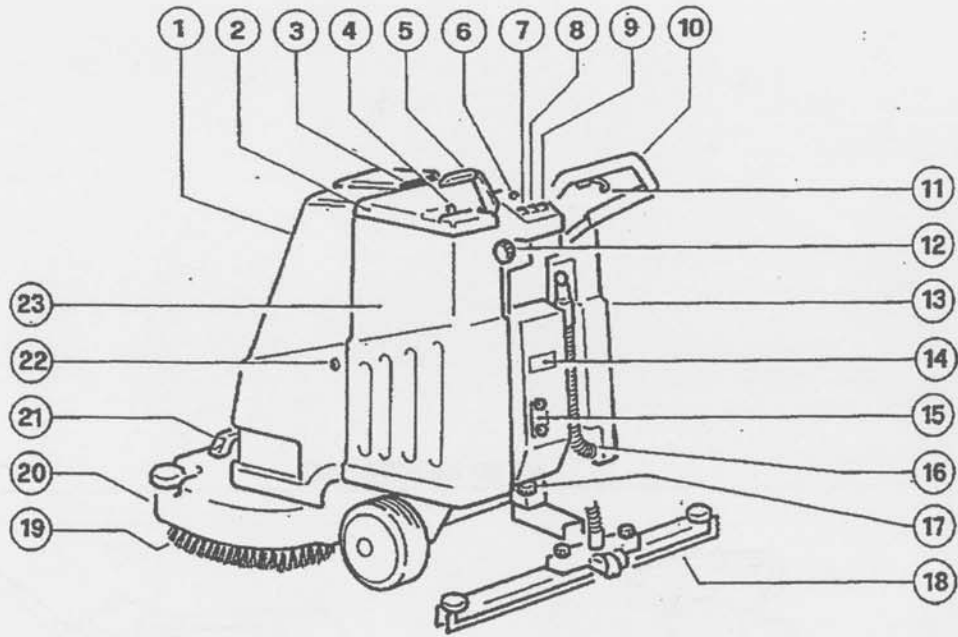

Fig. 2
This operating and service manual applies to models of single-brush floor cleaners. The machine identification plate is affixed to the electrical box in position N°. 14, fig. 2.
The main parts of the machine are as follows (reference fig. 2):
- remove the squeegee (fig. 2, N° 18) and brush (fig. 2, N° 19) from their packaging;
- operate the squeegee lifting lever (fig. 2, N° 5) and remove the tank cover (fig. 2, N° 2), eliminating the sheet protecting the control panel;
- take out the envelope inside the dirty water tank (fig. 2, N° 13) and the one attached to the handgrip (fig. 2, N° 10) and check the contents:
- 2 knobs (fig. 2, N° 12) for fixing the handgrip (fig. 2, N° 10);
- take the two knobs out of the second envelope, raise the handgrip (fig. 2, N° 10) until the two threaded holes correspond to two of the four slots in the upright and secure, tightening the knobs from the outside;
- remove the bonnet (only for the battery-operated model, fig. 2, N° 1), holding it by means of the grip (fig. 2, N° 3) and lifting it up;
- raise the machine by means of the front handle (fig. 2, N° 21) and handgrip (fig. 2, N° 10) and remove it from the pallet;
The squeegee (fig. 2, N°. 18) is the prime drying agent. To fit it on the machine, stand behind the handgrip with the squeegee blades facing down and the wheel (fig. 4, N°. 50) in the position shown in figure 4. Check that the squeegee support (fig. 4, N°. 47) is raised (if not, raise it by pulling back the squeegee lever fig. 2, N°. 5), loosen the two knobs (fig. 4, N°. 48) in the middle of the squeegee and slide it into the support. Secure the squeegee by tightening the two knobs.
The rating plate (fig. 2, N°. 14) gives the electrical characteristics of the machine. Ensure that the frequency and power correspond to those of the power distribution system. As regards voltage, the models with rating plate indicating 230 V can be used for voltages of 220, 230 or 240 V. The same applies to the models with 115 V rating: they can be used at 110, 115 and 120 V. The frequency specified on the plate must, however, always be identical to the mains frequency.
- if the bonnet (fig. 2, N° 1) is fitted on the machine, remove it by gripping and lifting at the point shown in figure 2, N° 3;